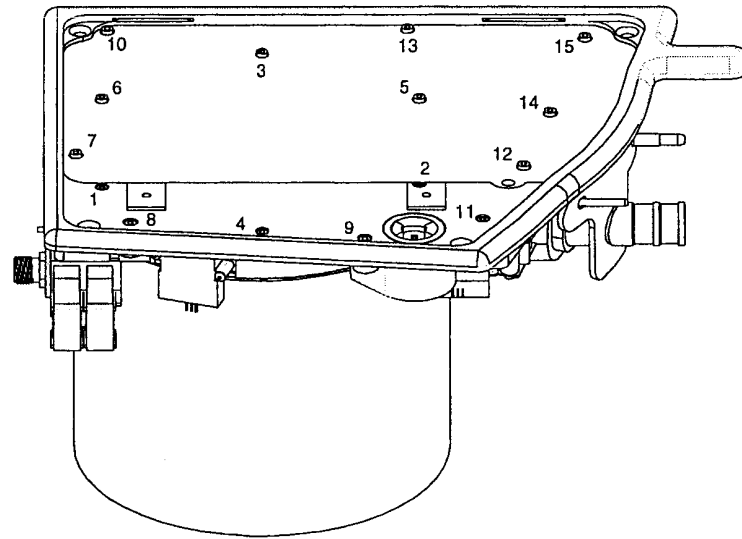

FIGURE 4-27.
5. Use a 7/64-in hex driver to start 3 screws (P/N L-002600-209), size 6-32 x 1-in (25.399 mm), 1 into each of the 3 cylinder holes without an alignment pin (cylinder screws are numbered 1-6). See Figure 4-27.
11. Starting with the cylinder screws, tighten the screws in a cross pattern. Use a torque driver set at 20 in-lbs (2.26 N-m) to tighten the screws with a 7/64-in hex bit. For proper sequence, refer to Figure 4-27.